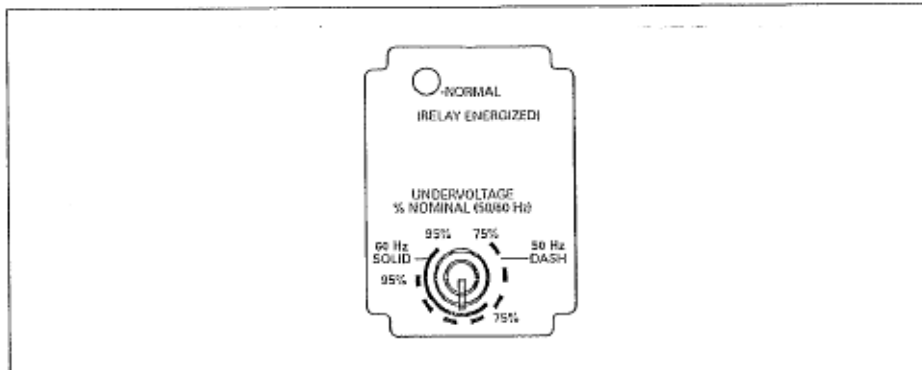

Figure 1. Undervoltage Dial
2. (D65PAR only) Set UNDERVOLTAGE dial to 75% (minimum). **NOTE:** when setting the undervoltage value, use the appropriate dial indicator: Solid Line for 60 Hz; Dashed Line for 50 Hz (see Figure 1).